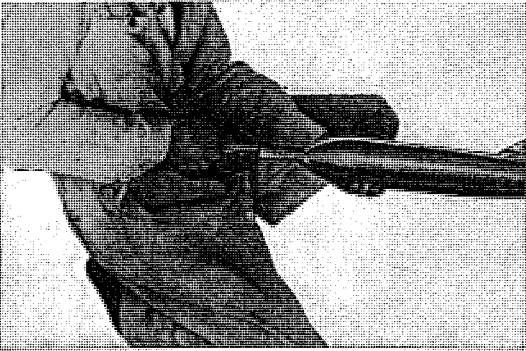

Fig. 4.52 Removing diffuser pipe
6. By loosening the 6×8 hex bolt, the diffuser pipe is removed from the muffler. (Refer to Fig. 4.52)